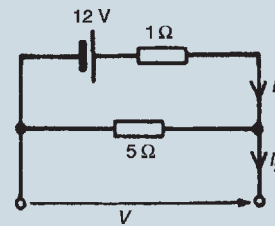

Figure 15.91
4. For the circuit shown in Fig. 15.91, voltage V is:
5. For the circuit shown in Fig. 15.91, current I_1 is:
6. For the circuit shown in Fig. 15.91, current I_2 is: